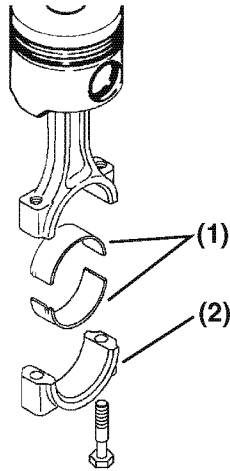

Figure 6-143
4. Reinstall the bearing inserts (**Figure 6-143, (1)**) in the connecting rod and cap.
6. Apply a light coat of clean engine oil to the rod cap bolts. Reinstall the connecting rod cap (**Figure 6-143, (2)**). Tighten the connecting rod bolts to the specified torque in two stages (1/2 then full torque). *See Special Torque Chart on page 6-23 for specifications.*